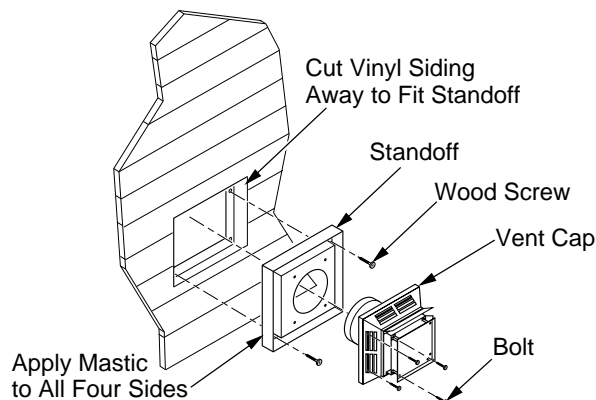

Figure 19 - Installing Vinyl Siding Standoff (Combustible Exterior Wall)
5. **Combustible Exterior Wall:** For vinyl siding, stucco, or wood exteriors, a siding standoff must be installed between the vent cap and exterior wall. The siding standoff prevents excessive heat from damaging siding materials. Siding materials must be cut to accommodate standoff. Bolt the vent cap to the standoff. Apply non-hardening mastic around outside edge of the standoff. Position the standoff/cap assembly in the center of the 10" (25.4cm) square hole and attach to exterior wall with wood screws provided (see Figure 19). The siding standoff must sit flush against the exterior fascia material.